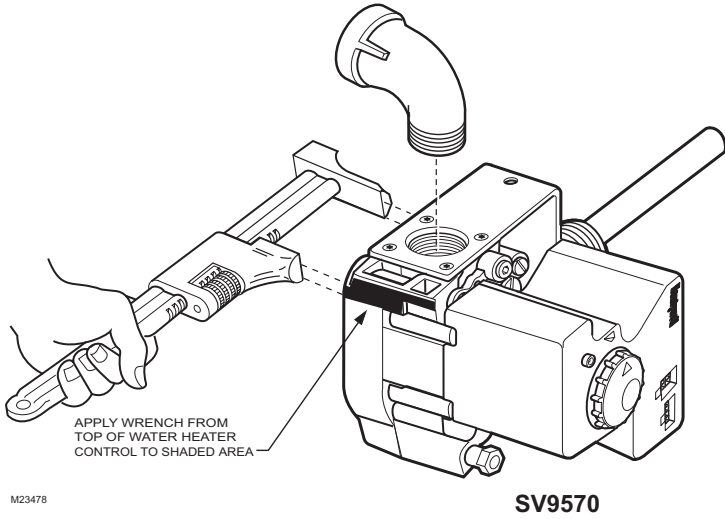

Fig. 6. Proper use of wrench on water heater control.
6. Connect the pipe to the water heater control inlet and outlet. Use a wrench on the square end of the water heater control. Refer to Fig. 6.